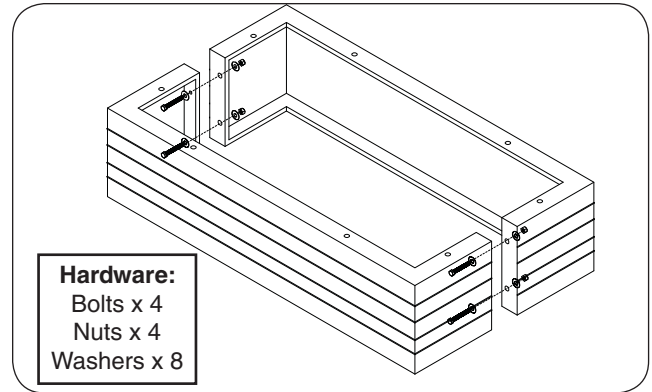

Fig. 14-1 Assemble hearth
2. Arrange the hearth pieces in their proper position. Carefully align the pilot holes, and insert the hardware in the order shown in Fig. 14-1. Hand tighten, then use two $\frac{3}{4}$ " open end wrenches (or equivalent) to fasten.